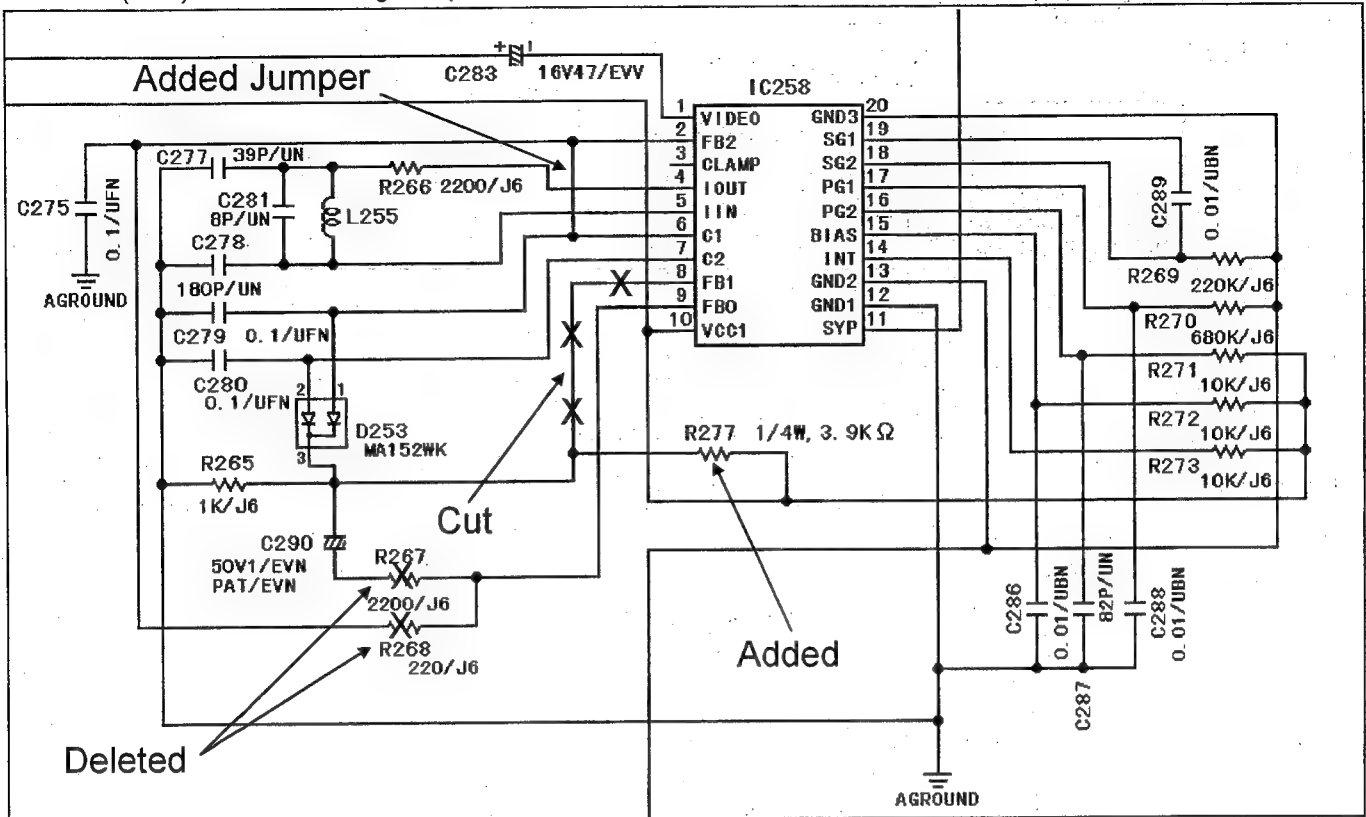

Fig. 3 Page 2-89
- 4). Add a resistor R277 (1/4W, 3.9K $\Omega$ ) between pin #10 of IC258 and cathode of D253 on the foil side as shown in figures 3 and 5.
- 7). Connect a jumper wire between pins #2 and #6 of IC258 on the foil side as shown in figures 3 and 5.
- 1). Delete resistors R267, R532 and R533 (1/10W, 2.2K $\Omega$ ) and R268 (1/10W, 220 $\Omega$ ) from the foil side as shown in figures 3, 4, 5, and 6.
- 2). Float the leg of pin # 8 of IC258 and IC503 on the foil side as shown in figures 3, 4, 5, and 6.
- 3). Add a resistor R277 (1/4W, 3.9K $\Omega$ ) between pin #10 of IC258 and cathode of D253 on the foil side as shown in figures 3 and 5.
- 6). Connect a jumper wire between pins #2 and #6 of IC258 on the foil side as shown in figures 3 and 5.
- 1). Float the legs of pin #8 of IC258 and IC503 and then cut them on the foil side as shown in figures 3, 4, and 7.
- 2). Add a resistor R277 (1/4W, 3.9K $\Omega$ ) between pin #10 of IC258 and cathode of D253 on the foil side as shown in figures 3 and 8.
- 3). Connect a jumper wire between pins #2 and #6 of IC258 on the foil side as shown in figures 3 and 8.